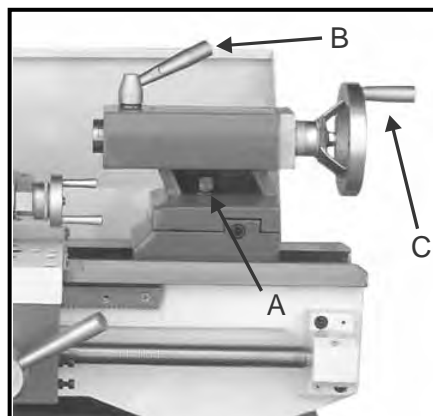

Fig. 14
14. Tailstock Clamping Screw (A, Fig. 14)
15. Tailstock Quill Clamping Lever (B, Fig. 14)
16. Tailstock Quill Traverse Handwheel (C, Fig. 14)